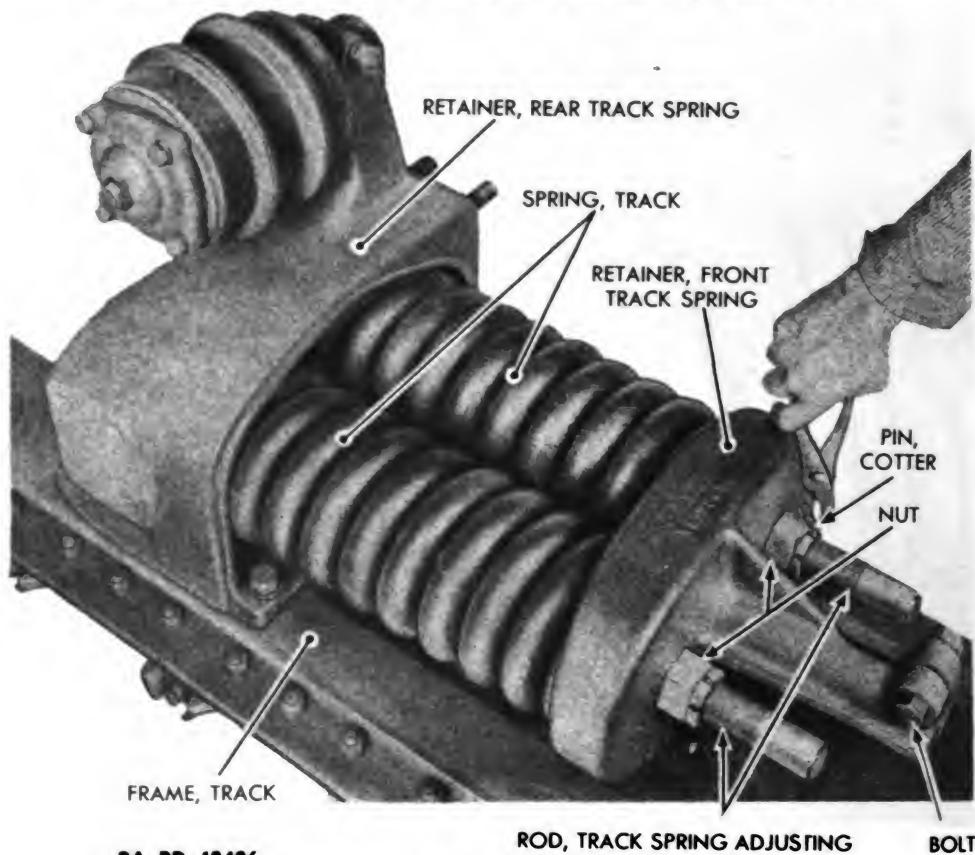

Figure 154 – Front Idler Springs (Right) Removal
(5) REMOVE FRONT TRACK SPRING RETAINER (fig. 154).
(a) *Install Track Spring Adjusting Rods (Right)* (fig. 154).
(b) *Install Track Springs* (fig. 154).
(c) *Install Front Track Spring Retainer* (fig. 154).